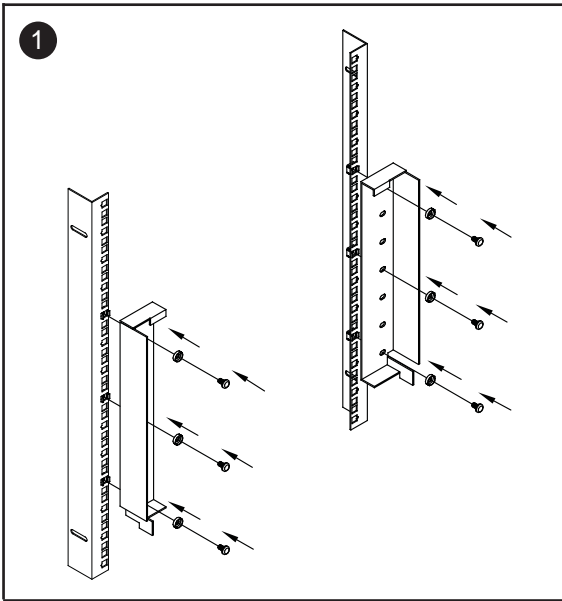

Figure 5.
■ Install each screw shown in **Figure 5**.